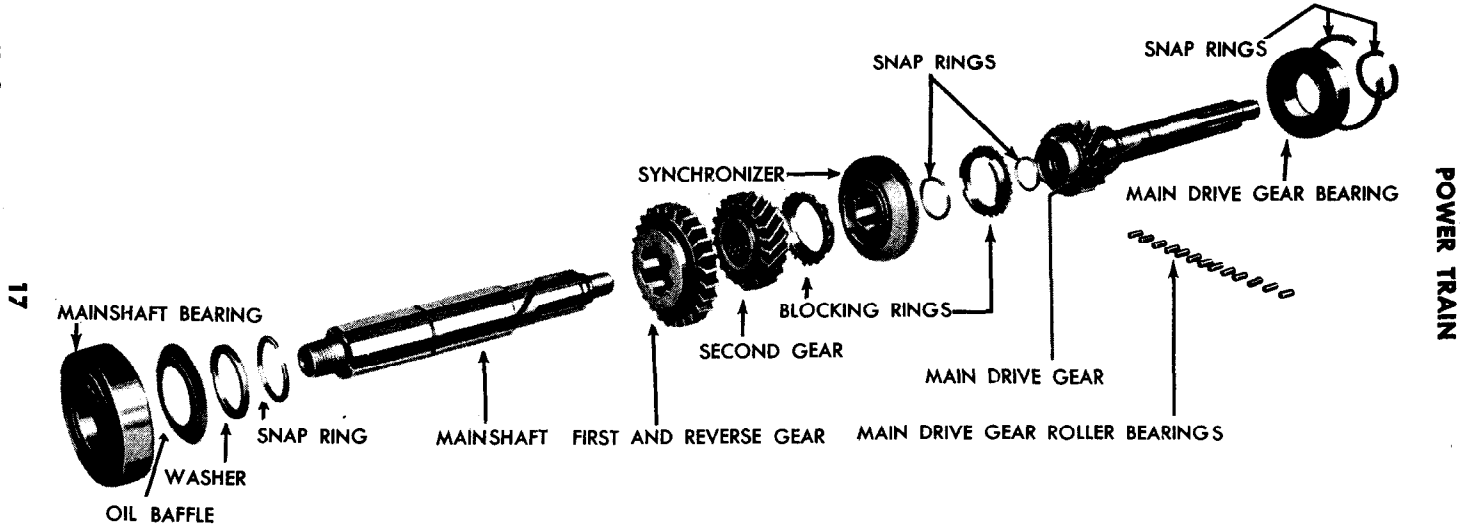

Figure 13 — Mainshaft Assembly — Exploded View
i. **Disassemble Main Drive Gear (fig. 13).** Remove the snap ring and the 13 rollers from the main drive gear.
j. **Disassemble Synchronizer (fig. 13).** Slide the synchronizer sleeve off the synchronizer hub and remove the two lock rings.
(2) **MAIN DRIVE GEAR ASSEMBLY** (fig. 13). Replace the main drive gear (clutch shaft) if the following conditions are apparent: Broken teeth or excessive wear; pitted or twisted shaft; discolored bearing surfaces due to overheating. Small nicks can be honed and then polished with a fine stone. Measure the roller bearing recess in the gear end of the shaft. If more than 0.974 inch, replace the main drive gear. Measure the pilot end of the shaft. If it is less than 0.595 inch at the pilot end, replace the main drive gear.
(3) **MAINSHAFT** (fig. 13). A mainshaft excessively worn, or with pitted or discolored bearing surfaces due to overheating, must be replaced. Measure the diameter of the pilot end of the shaft and the diameter of the second speed gear bearing surface. If they are less than 0.595 inch at the pilot end, or less than 1.126 inches at the second speed gear bearing surface, replace the mainshaft.
(4) **FIRST AND REVERSE GEAR** (fig. 13). A first and reverse gear with excessively worn teeth or splines, or with broken or chipped teeth must be replaced. Slide the gear onto the mainshaft. If the backlash between the gear and the shaft exceeds 0.005 inch, either the gear or the shaft, or both, must be replaced. A gear with small nicks can be honed and then polished with a fine stone.
(5) SECOND GEAR (fig. 13).
(9) SYNCHRONIZER (fig. 13). Blocking rings with worn, broken, or nicked teeth, must be discarded. Hubs with excessively worn splines must be replaced. Sleeves with broken, nicked, or worn teeth, or excessively worn splines, must be replaced.
(10) MAIN DRIVE GEAR BEARING ROLLERS (fig. 13). Needle bearing rollers with flat spots, pitted, or discolored surfaces must be replaced. Measure the diameter of each roller. If less than 0.187 inch, the rollers must be replaced.
(11) BALL BEARINGS (fig. 13). Ball bearings with loose or discolored balls, or with pitted or cracked races must be replaced.
c. **Install Mainshaft Assembly** (fig. 13). Insert the mainshaft in the case through the opening in the rear of the case. Slide the first and reverse gear onto the shaft, with the shifter fork channel toward the rear. Slide the second gear onto the mainshaft with the tapered end of the gear toward the front. Install a blocking ring onto the second gear. Slide the synchronizer onto the mainshaft with the long end of the hub toward the front and install the snap ring.
d. **Install Main Drive Gear Assembly** (fig. 13). Place the other blocking ring in the synchronizer and install the main drive gear assembly in the case.
a. **Install Transmission to Transfer Case.** Place the transmission in position on the transfer case. Be sure the interlock plunger (fig. 4) is in position between the two shifter shafts on the transmission. Install the bolts that secure the transmission to the transfer case. Slide the oil baffle and mainshaft gear on the transmission mainshaft through the rear cover opening on the transfer case. (The oil baffle was not supplied on vehicles of early manufacture. If grease is found to have been leaking from the transfer case into the transmission on vehicles without this baffle, reverse the rear mainshaft bearing (fig. 13) so that the open side of the bearing faces the front of the transmission. Leave the oil baffle in front of the bearing in its original position. Install another oil baffle at the rear of the bearing.) Install the flat washer and nut that secure the mainshaft gear to the transmission mainshaft. Install a new gasket and the rear cover on the transfer case (fig. 27).